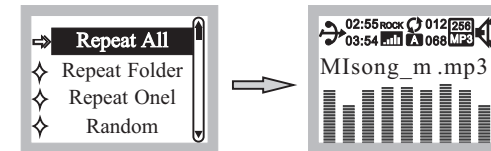

Fig. 12
(F) Repeat Mode: Press PRV/TEN or NEXT/TEN to select parameter, Fig. 12.
- (1) Repeat All: A
- (2) Repeat Folder: D
- (3) Repeat One: 1
- (4) Random: R